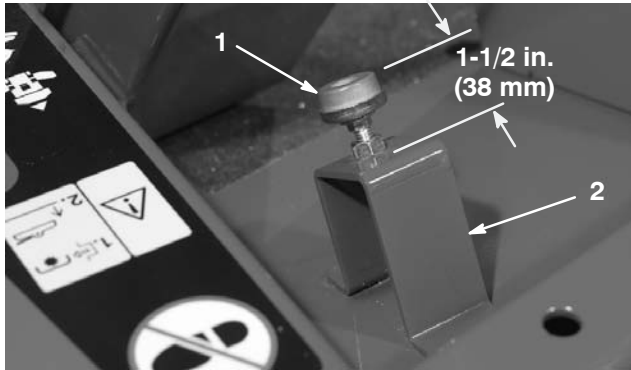

Figure 67
2. Check the traction pedal stop adjustment. The distance from the top of the stand to the top of the stop must be 1-1/2 in. (38 mm) (Fig. 67). Loosen the nuts and adjust, as required.